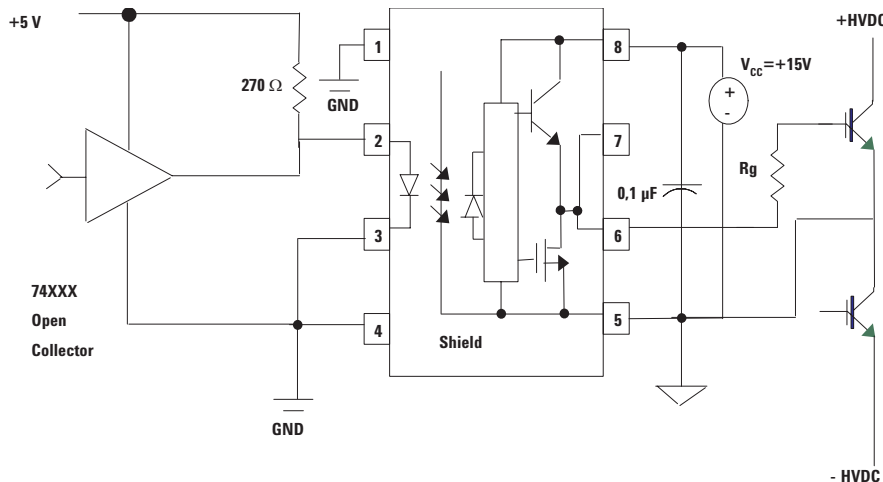
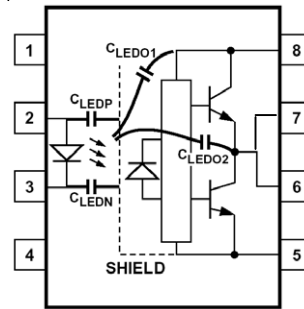
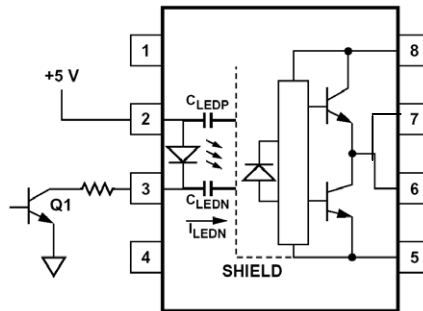
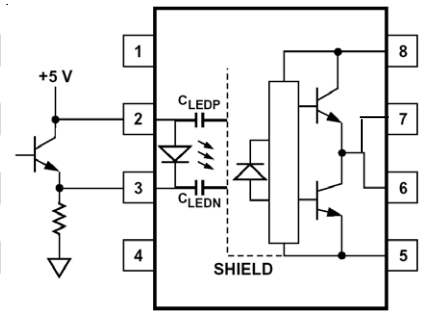

Figure 25. Recommended LED Drive and Application Circuit for HCPL-3180
Figure 30. Optocoupler Input to Output Capacitance Model for Shielded Optocouplers.
Figure 32. Not Recommended Open Collector Drive Circuit.
Figure 33. Recommended LED Drive Circuit for Ultra-High CMR
To keep the IGBT firmly off, the HCPL-3180 has a very low maximum  $V_{OL}$  specification of 0.4 V. The HCPL-3180 realizes the very low  $V_{OL}$  by using a DMOS transistor with 1 W (typical) on resistance in its pull down circuit. When the HCPL-3180 is in the low state, the IGBT gate is shorted to the emitter by  $R_g + 1$  W. Minimizing  $R_g$  and the lead inductance from the HCPL-3180 to the IGBT gate and emitter (possibly by mounting HCPL-3180 on a small PC board directly above the IGBT) can eliminate the need for negative IGBT gate drive in many applications as shown in Figure 25. Care should be taken with such a PC board design to avoid routing the IGBT collector or emitter traces close to the HCPL-3180 input as this can result in unwanted coupling of transient signals into the input of HCPL-3180 and degrade performance.
**Step 1:** Calculate  $R_g$  minimum from the  $I_{OL}$  peak specification. The IGBT and  $R_g$  in Figure 25 can be analyzed as a simple RC circuit with a voltage supplied by the HCPL-3180.
For the circuit in Figure 25 with the circuit in with  $I_F$  (worst
performance by using a detector IC with an optically transparent Faraday shield, which diverts the capacitively coupled current away from the sensitive IC circuitry. However, this shield does not eliminate the capacitive coupling between the LED and optocoupler pins 5-8 as shown in Figure 30. This capacitive coupling causes perturbations in the LED current during common mode transients and becomes the major source of CMR failures for a shielded optocoupler. The main design objective of a high CMR LED drive circuit becomes keeping the LED in the proper state (on or off) during common mode transients. For example, the recommended application circuit (Figure 25), can achieve 10 kV/us CMR while minimizing component complexity.
The open collector drive circuit, shown in Figure 32, cannot keep the LED off during a  $+dV_{CM}/dt$  transient, since all the current flowing through CLEDN must be supplied by the LED, and it is not recommended for applications requiring ultra high CMRL performance. Figure 33 is an alternative drive circuit, which like the recommended application circuit (Figure 25), does achieve ultra high CMR performance by shunting the LED in the off state.